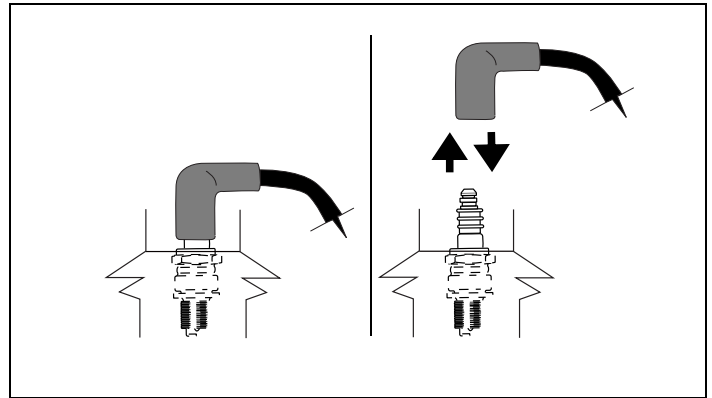

Figure 38. Disconnecting/Connecting Spark Plug
1. Carefully disconnect spark plug wire and keep it away from spark plug. See Figures 38 and 39.